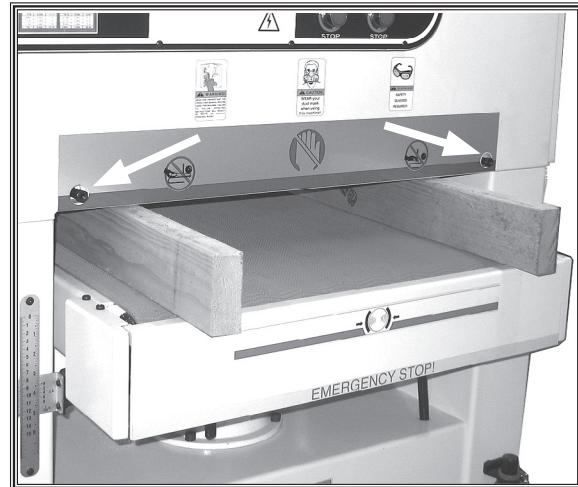

Figure 10. Pressure roller height adjustment locations and gauge boards installed.
4. Place each board on each side of the conveyor belt so that they are positioned directly below the front and back pressure rollers as shown in **Figure 10**.
5. With the adjustment bolts shown in **Figure 10**, raise the pressure rollers above the sanding belt roller position.